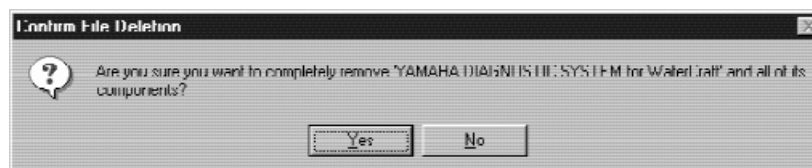

Fig. 68
5. Click the **Yes** button in the confirmation window to uninstall the utility software. To cancel the uninstall operation of the utility software, click the **No** button (see Figs. 68~70).